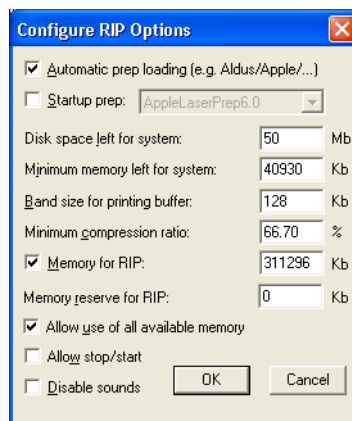

Figure 2.4 Memory settings for TrapPro
- Ensure **Allow use of all available memory** is selected, as this will allow all free memory to be made available to the RIP (this option is not available in Mac OS). The Configure RIP Options dialog should now look similar to Figure 2.4.